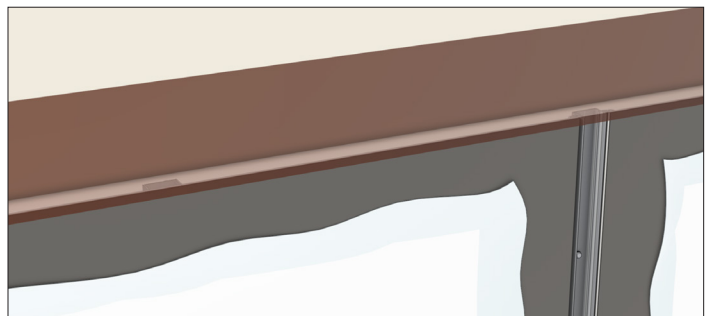

Figure 21.4
21. Place the Q04F Flashing so that it covers the top edge of panels, Q08T Top Cap, and the Q06S Rainscreen Furring Spacers. (Figure 21.4)